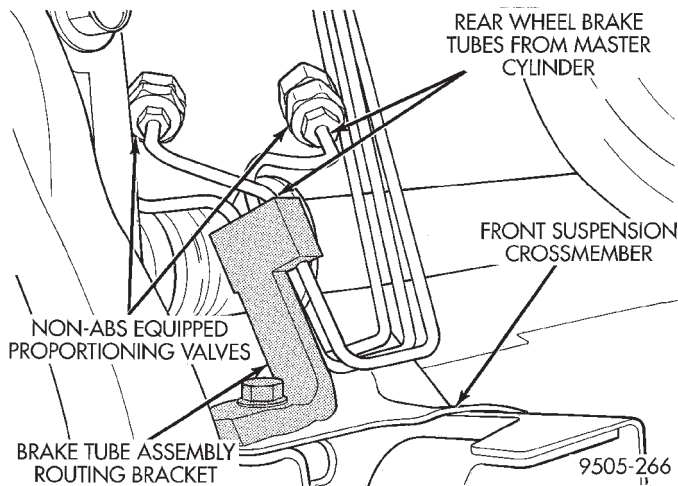

Fig. 26 Non-ABS Brake Proportioning Valve Location
One proportioning valve controls the right rear brake, and the other proportioning valve controls the left rear brake (Fig. 26). Therefore, a road test to determine which rear brake slides first is essential. Once the wheel which slides first is determined, use the following procedure to diagnose the proportioning valve.
(1) After road testing vehicle to determine which rear wheel exhibits premature rear wheel skid, refer to (Fig. 26) to determine which proportioning valve needs to be tested.
(2) Remove brake line (Fig. 26) from the proportioning valve controlling the rear wheel of the vehicle which has premature wheel skid.
(3) Remove the proportioning valve from the rear brake line.